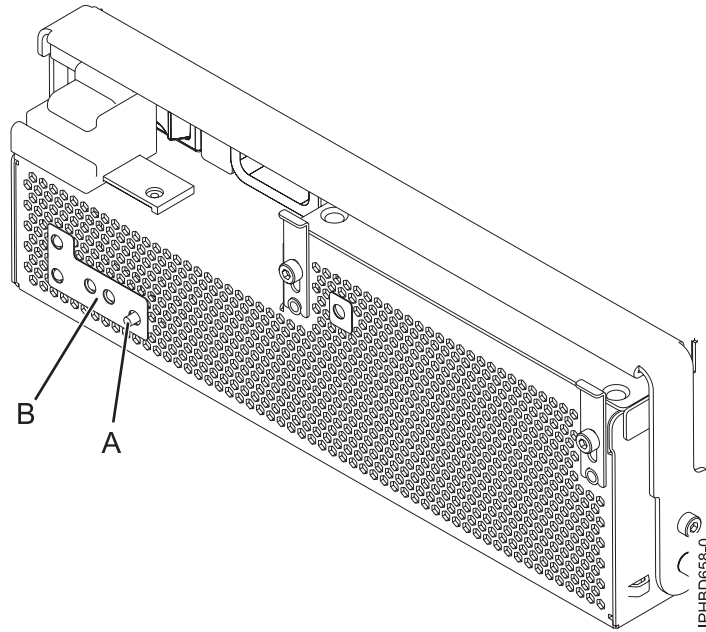
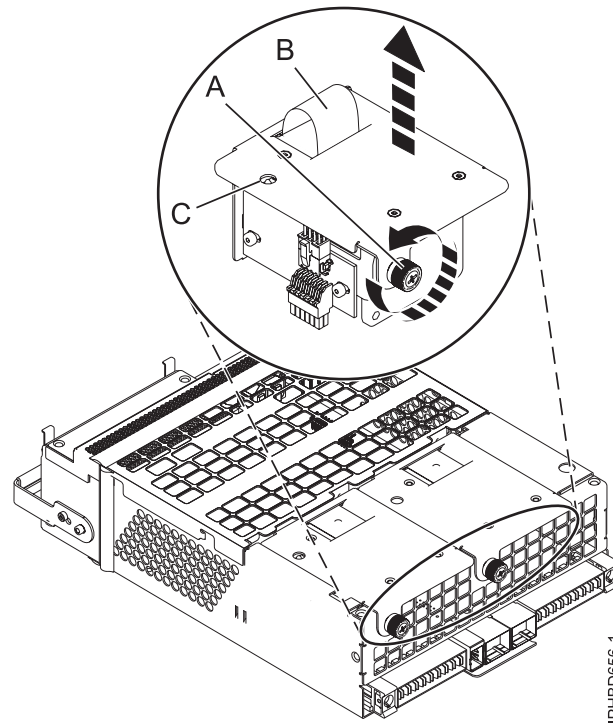

Figure 13. Fan fault LED and fan identify button
Figure 14. Removing a fan
Note: If a fan fails, the amber fan fault LED (B) on the front of the offline converter assembly (OCA), as shown in Figure 13 on page 15, is on solid.
- a. To identify the failing fan. Press the fan identify button (A), as shown in Figure 13. An amber left or right fan-fault LED (C) on solid, as shown in Figure 14, indicates the faulty fan.
- b. Loosen the thumbscrew (A) that holds the fan in the power-supply assembly, as shown in Figure 14.
- c. Use the recessed fan handle **(B)** to lift the fan from the power-supply assembly, as shown in Figure 14 on page 15.